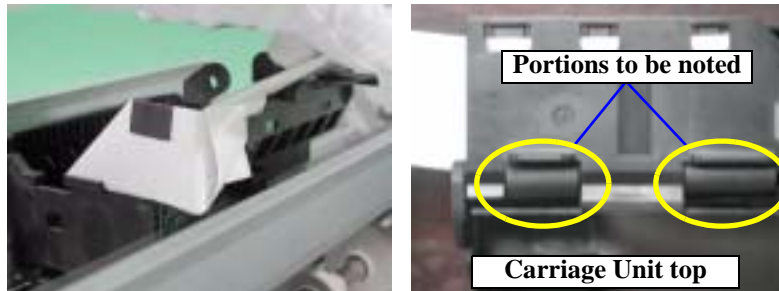

Figure 4-63. Routing the Head FFC Guides
- Refer to Figure 4-63 for the way to route the Head FFC Guides.
- When reinstalling the Head FFC Guides, fully be careful not to bend or damage the FFCs. (Especially the two places in the right photo in Figure 4-63.)
- Place the Head FFCs in the return portion on the right and rear sides of the Carriage. Refer to the right photo in Figure 4-63, "Routing the Head FFC Guides".